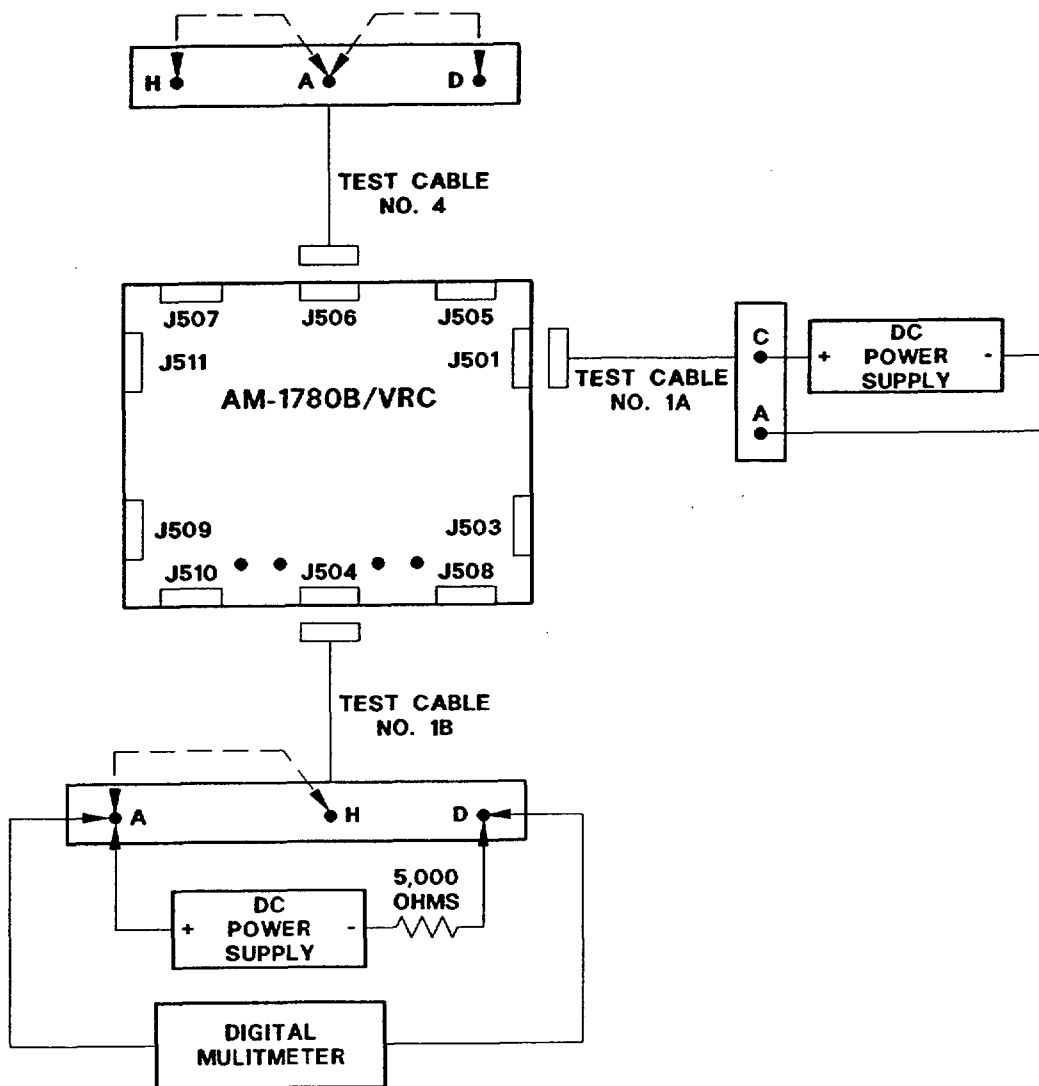

Figure 3-14. GS Test Setup M.
- b. Connect a 5,000 ohm resistor in series with a 24 vdc power supply to J504-D as shown in figure 3-14. Connect a digital multimeter to J504-D.